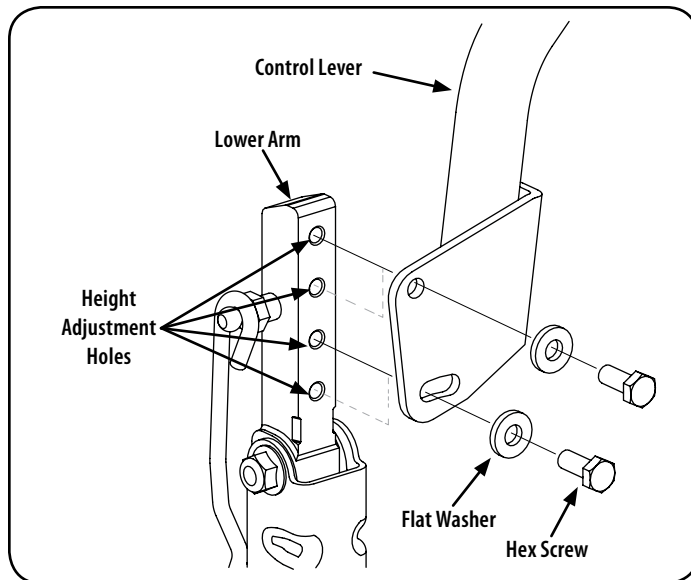

Figure 28
- While supporting the control lever to keep it from falling, remove the hex screw and flat washer from the bottom of the control lever and lower arm. Refer to Figure 28.
- If not already loose, loosen the hex screw and rotate the control lever either forward or rearward to the desired position. See Figure 28.